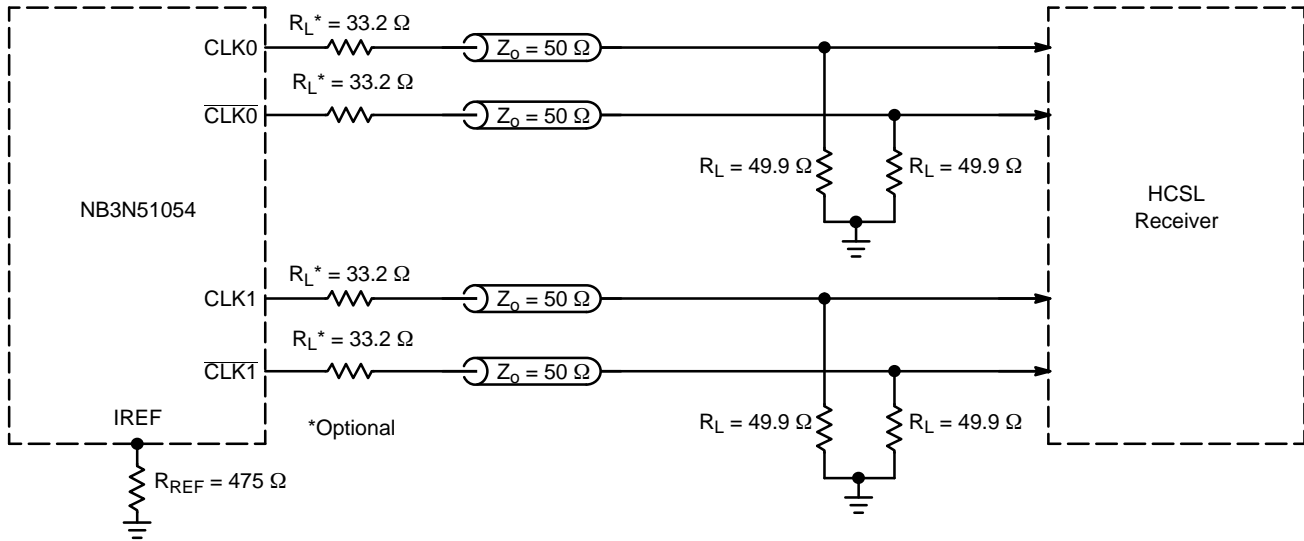
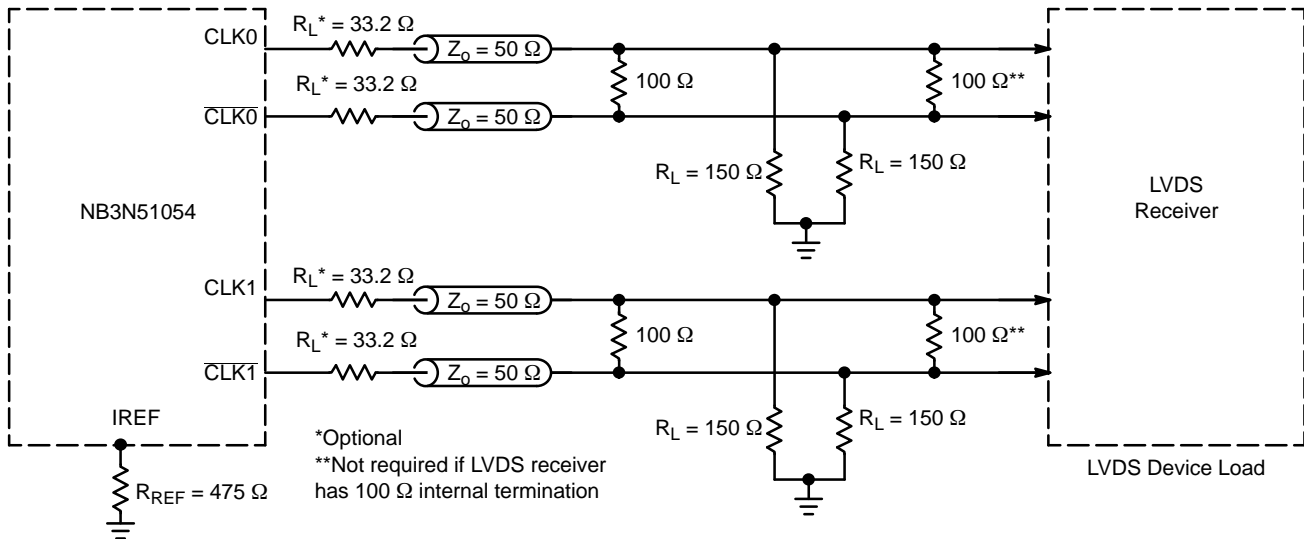

Figure 6. Typical Termination for HCSL Output Driver and Device Evaluation
Figure 7. Typical Termination for LVDS Device Load
4. Measurement taken with outputs terminated with $R_S = 33.2$ Ω, $R_L = 49.9$ Ω, with test load capacitance of 2 pF and current biasing resistor set at $R_{REF} = 475$ Ω. See Figure 6. Guaranteed by characterization.
9. Measurement taken from differential output on single-ended channel terminated with $R_S = 33.2\ \Omega$, $R_L = 49.9\ \Omega$, with test load capacitance of 2 pF and current biasing resistor set at $R_{REF} = 475\ \Omega$. See Figure 6. Guaranteed by characterization.
14. Measurement taken from differential output on single-ended channel terminated with $R_S = 33.2\ \Omega$, $R_L = 49.9\ \Omega$, with test load capacitance of 2 pF and current biasing resistor set at $R_{REF} = 475\ \Omega$. See Figure 6. This parameter is guaranteed by characterization. Not tested in production
The outputs can be terminated to drive HCSL receiver (see Figure 6) or LVDS receiver (see Figure 7). HCSL output interface requires 49.9 Ω termination resistors to GND for generating the output levels. LVDS output interface may not